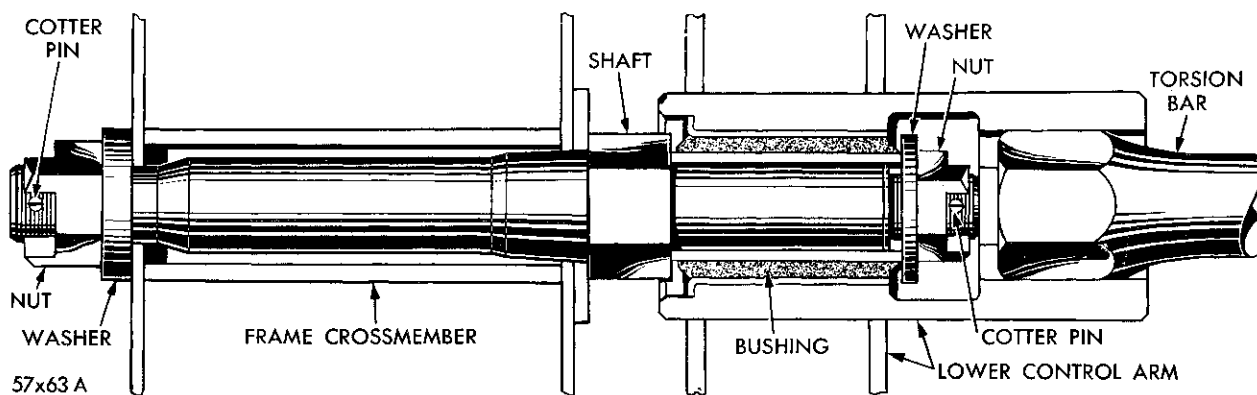

Fig. 13—Removing Lower Control Arm Shaft and Bushing from Housing (Typical)
(1) Place the lower control arm in an arbor press (with torsion bar hex opening up). Press the shaft and bushing out of the control arm, using a brass drift (Fig. 13).